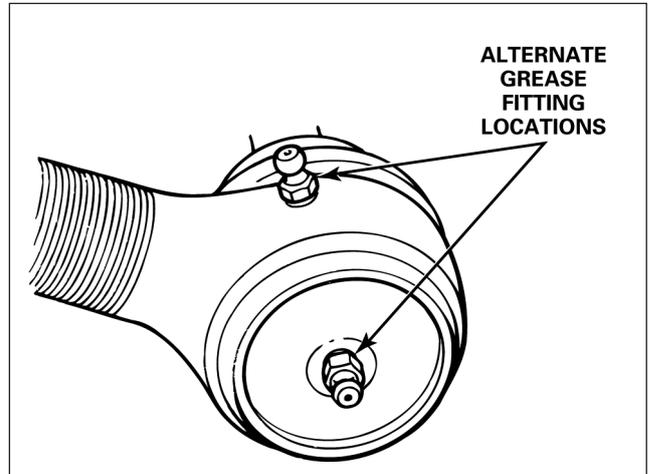

Fig. 1.10
- **If the tie rod ends are non-greaseable:** Do not install a grease fitting. Fig. 1.10